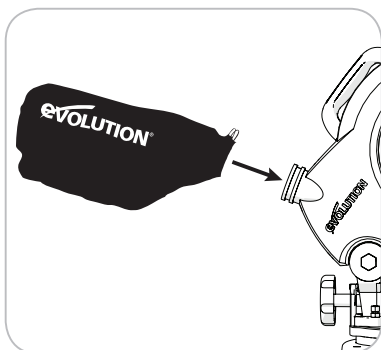

Fig. 28
- Slide the Dust Bag over the dust extraction port, ensuring that the spring clip grips the port holding the Dust Bag securely in place. (**Fig. 28**)